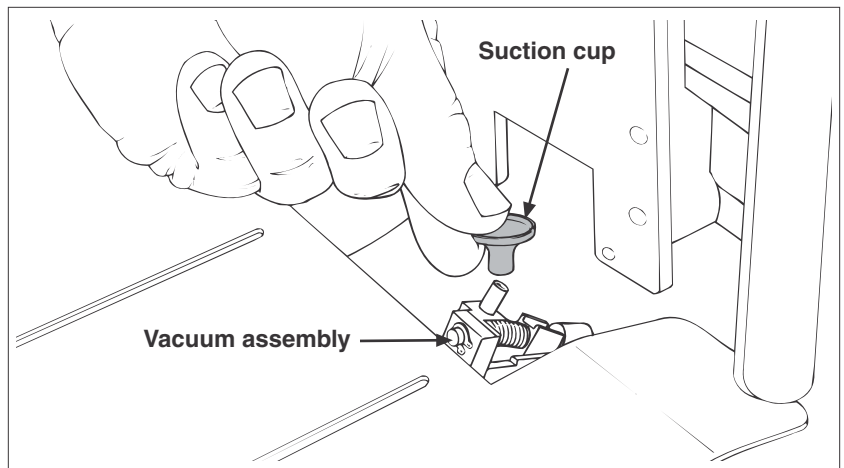

**Figure 2-10. Repositioning Separator Foot at Front of Inserter**
2. With a screwdriver, loosen the inserter separator foot and tilt away slightly from insert station assembly (opposite feeder) so that foot does not interfere with material being fed (Figure 2-10).